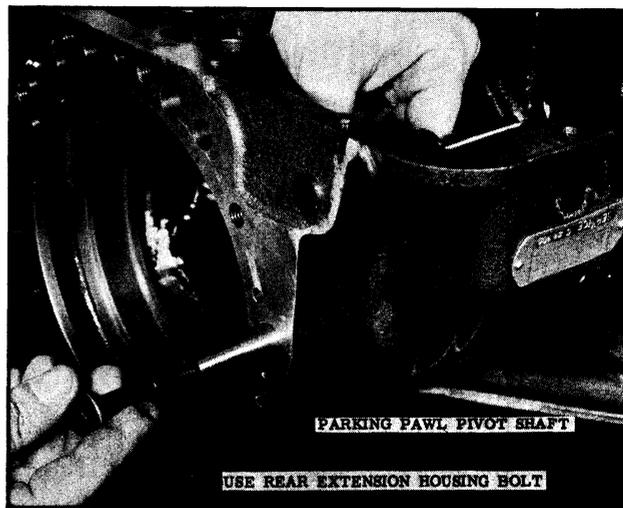

Fig. 3-48 Removing Pivot Shaft
3. Install a rear extension housing bolt into the parking pawl pivot shaft, then slide the pivot shaft from the case while turning the shaft. (See Fig. 3-48) Remove the bolt from pivot shaft.